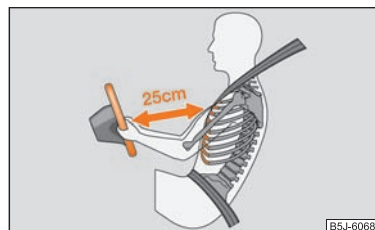

Fig. 116 Safe distance to steering wheel
- **For the driver and front passenger it is important to maintain a distance of at least 25 cm from the steering wheel or dash panel ⇒ fig. 116. Not maintaining this minimum distance will mean that the airbag system will not be able to properly protect you – hazard! The front seats and the head restraints must always also be correctly adjusted to match the body size of the occupant.**